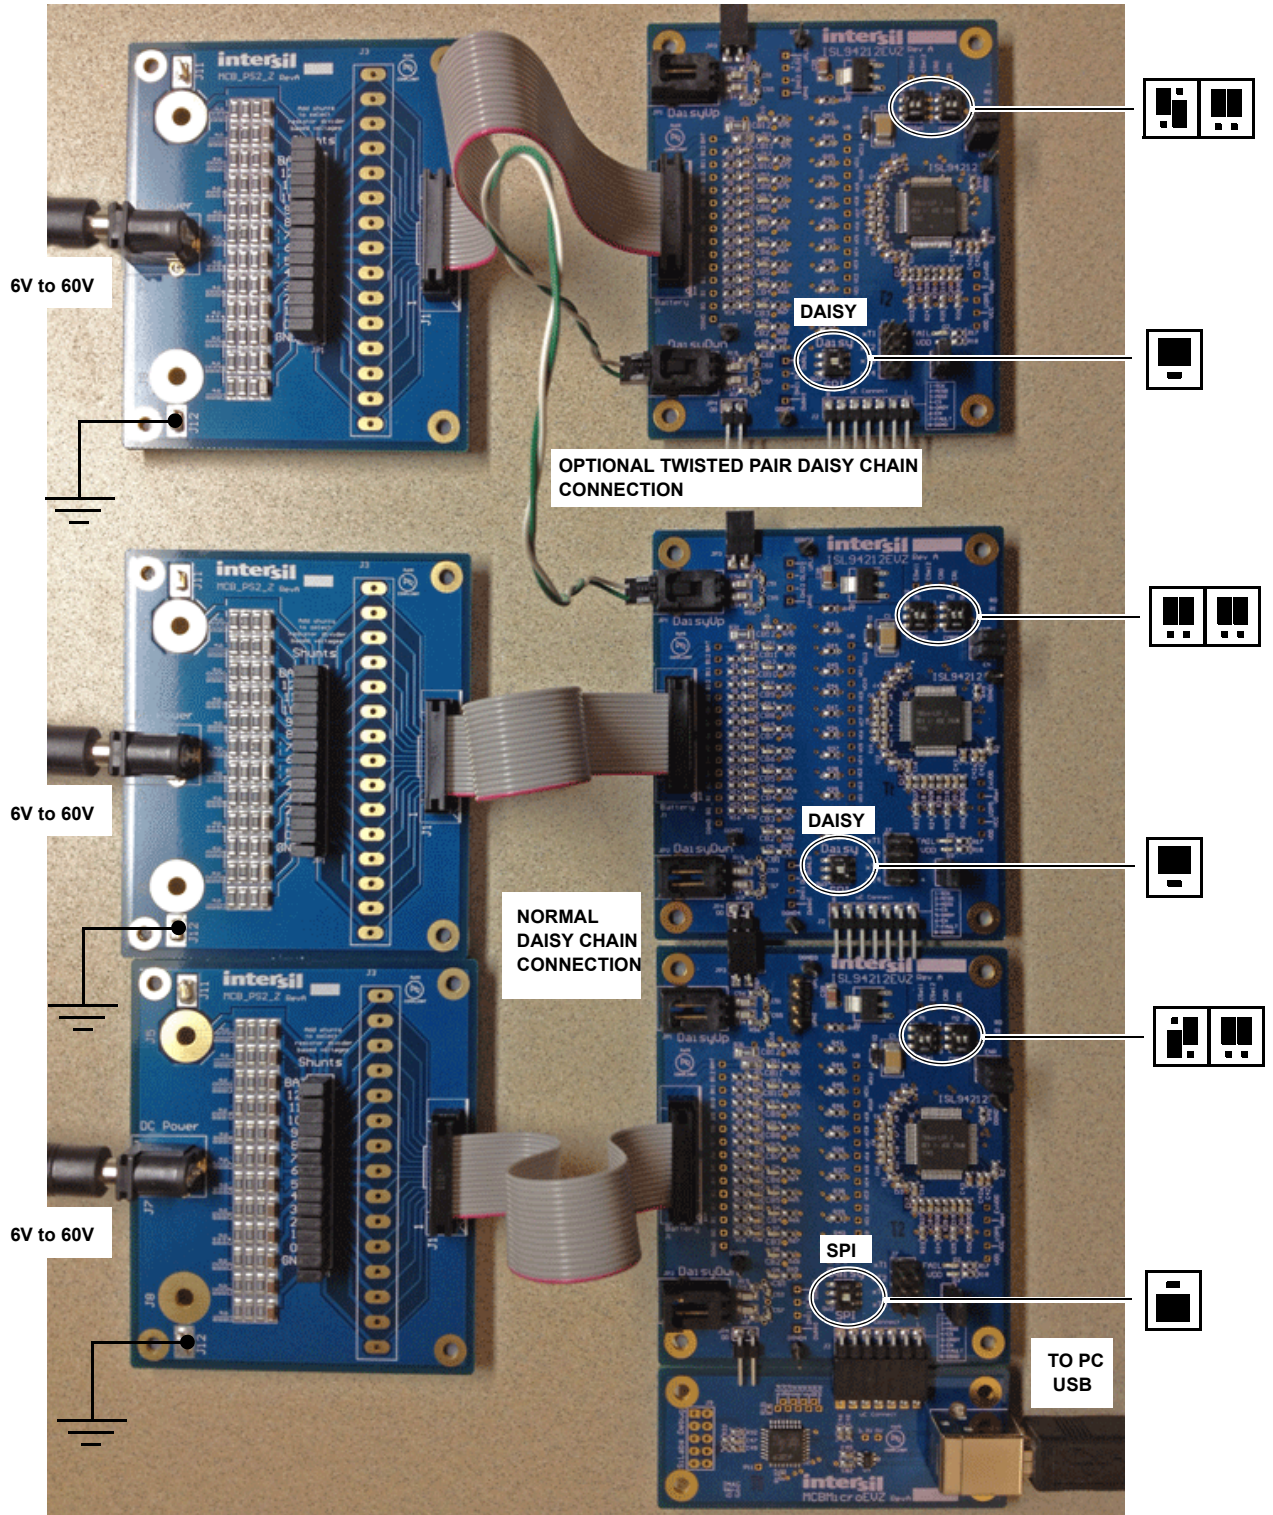
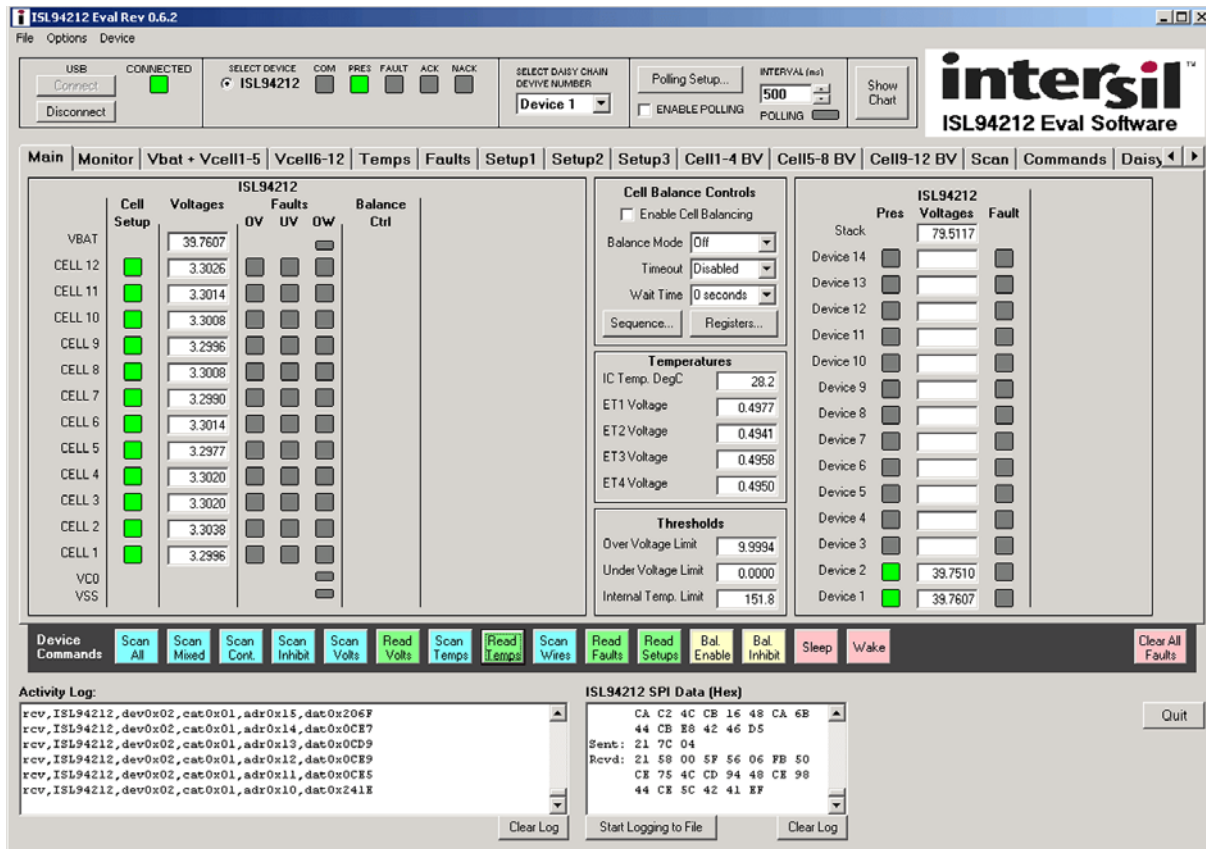

FIGURE 5. ISL94212EVZ IN 36-CELL DAISY CHAIN CONFIGURATION (SHOWN 1 ISL94212EVKIT1Z (MASTER) AND 2 ISL94212EV1Z (SLAVES))
FIGURE 6. MAIN GUI WINDOW - TWO CASCADED DEVICES
- Step 2: Connect the MCB_MICRO_EVZ board (J1) to the Master ISL94212EVZ board (J2). (See Figure 5)
The boards can plug together to complete the daisy chain connections, or the enclosed twisted pair cable can connect the boards. Connect as shown in Table 2. See also the 36-cell daisy chain connection Figure 5 on page 7. For a 24-cell connection, drop out the Middle board.
- Step 3: The GUI program identifies the devices connected, either in a single board, or a daisy chain configuration, (See Figure 6). NOTE: Figure 5 on page 7 shows the daisy chain configuration.